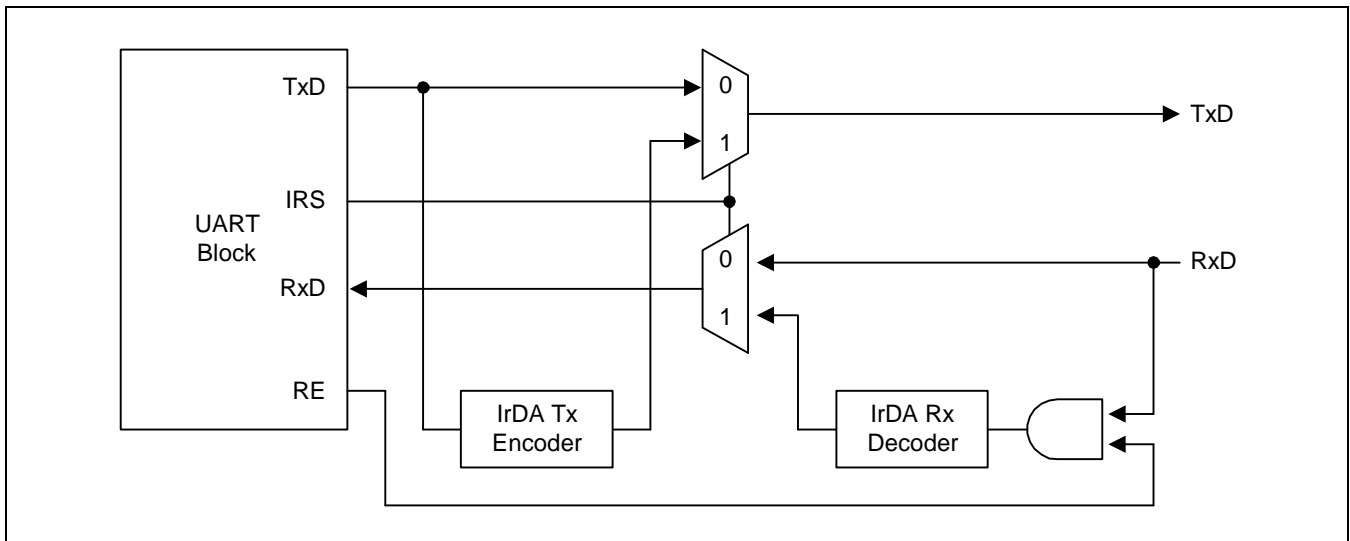

Figure 14-4. IrDA Function Block Diagram
The S3C2416 UART block supports infrared (IR) transmission and reception, which can be selected by setting the Infrared-mode bit in the UART line control register (ULCONn). Figure 14-4 illustrates how to implement the IR mode.